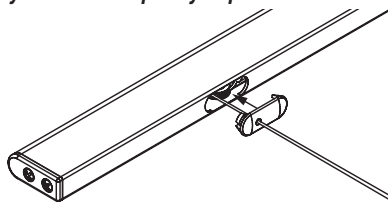

Figure 10
- ⑩ Tighten the smaller screw to lock the position of the roller. Re-test the fabric tracking and re-adjust if needed.
- ⑪ Set the upper- and lower-limits of the unit's operating range. Insure that the hem-bar does not contact the fabric bundle, operator roller, pulleys, etc. throughout its range of operation.
- ⑫ Trim any excess draw cable from both ends.
- ⑬ Click the hem-bar Pulley Caps into place (see Fig. 10).